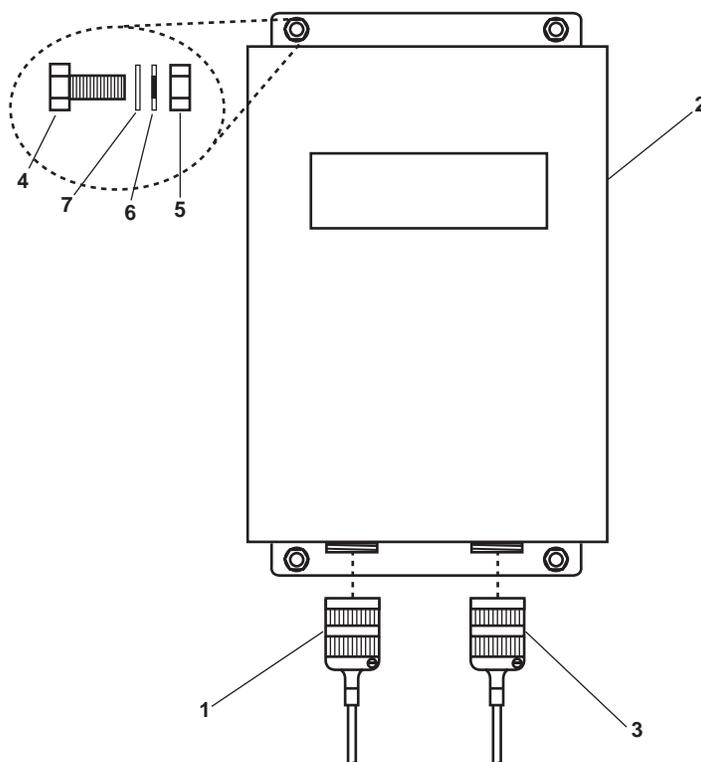

Figure 2. Remote Relay Assembly Removal
1. Disconnect the sampling/sensor cable connector (figure 2, item 1) from the remote relay assembly (figure 2, item 2).
2. Disconnect the OCM junction box cable connector (figure 2, item 3) from the remote relay assembly (figure 2, item 2).
3. Remove the four bolts (figure 2, item 4), four nuts (figure 2, item 5), four flat washers (figure 2, item 6), and four lockwashers (figure 2, item 7) securing the remote relay assembly (figure 2, item 2) to the Oil Water Separator (OWS) tank. Discard the lockwashers.
4. Remove the remote relay assembly (figure 2, item 2) from the OWS tank.
1. Position the remote relay assembly (figure 2, item 2) on the OWS tank.
2. Install the four bolts (figure 2, item 4), four nuts (figure 2, item 5), four flat washers (figure 2, item 6), and four new lockwashers (figure 2, item 7) securing the remote relay assembly (figure 2, item 2).
3. Connect the OCM junction box cable connector (figure 2, item 3) to the remote relay assembly (figure 2, item 2).
4. Connect the sampling/sensor cable connector (figure 2, item 1) to the remote relay assembly (figure 2, item 2).